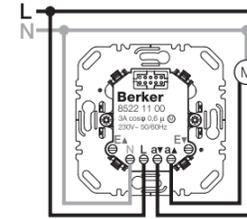

Figure 2: Shutter insert circuiting diagram
- Circuit shutter insert according to circuiting diagram (Figure 2).